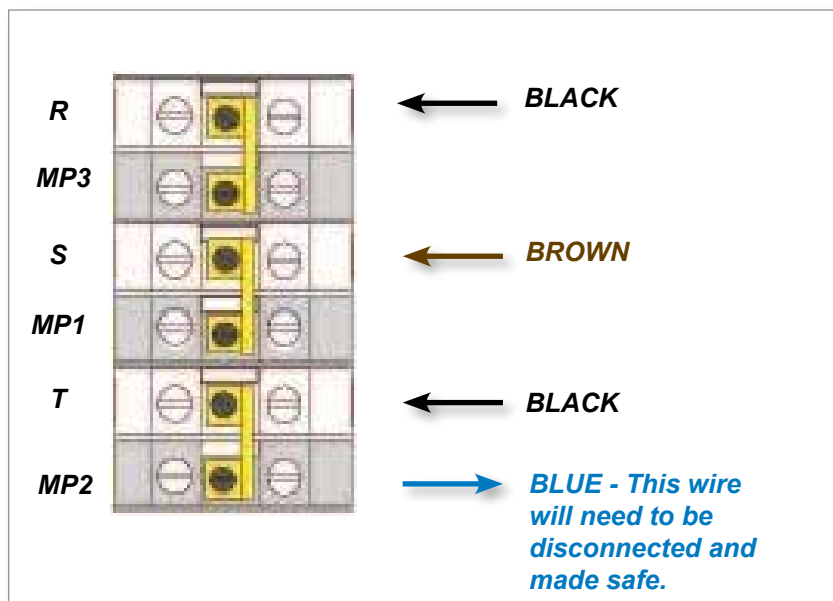

Figure 9-3 Remove the neutral - position shown by blue arrow
1. Remove the neutral (indicated by the blue conductor) into the lower-right terminal. Refer to Figure 9-3.